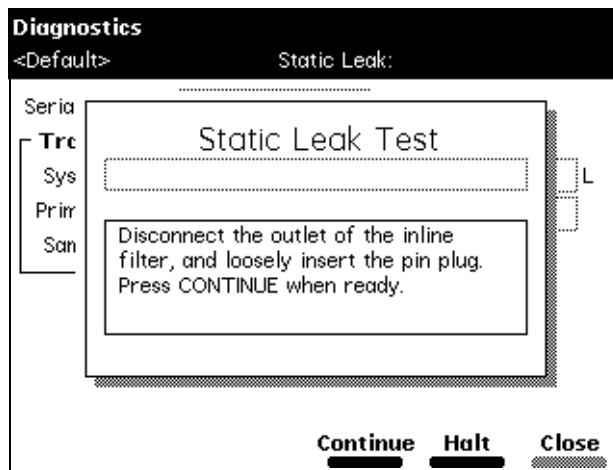

Figure 8-11 Static Leak Test Screen
1. Select **Static leak test** in the Other Diagnostics screen, then press the **OK** screen key. The Static Leak Test screen appears (Figure 8-11).